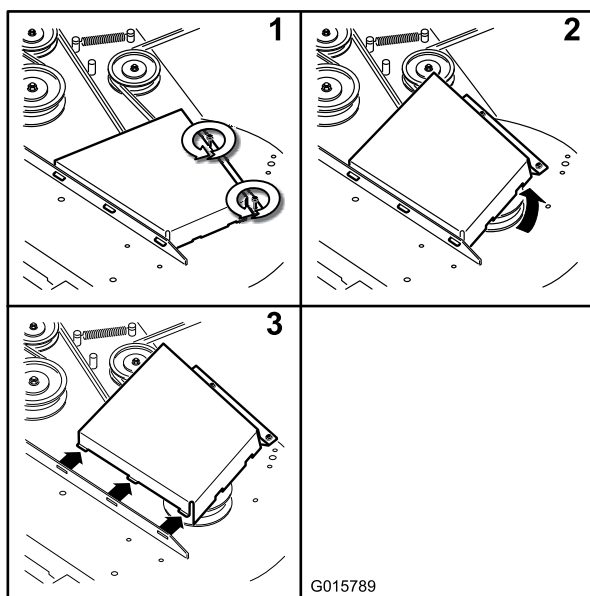

Figure 67
4. Remove the belt covers (Figure 67).